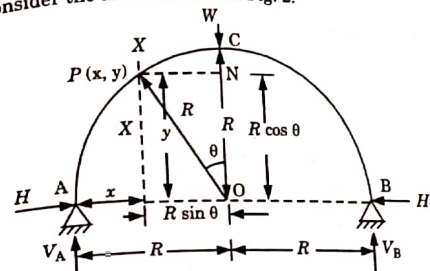

Fig. 2.
1. Consider the arch as shown in Fig. 2.